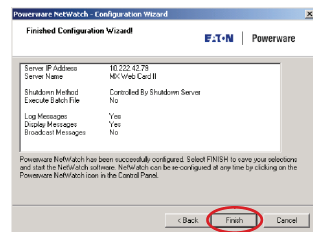

Figure 19. Verify Configuration Settings
12. Verify the configuration settings are correct and select **Finish** (see Figure 19).